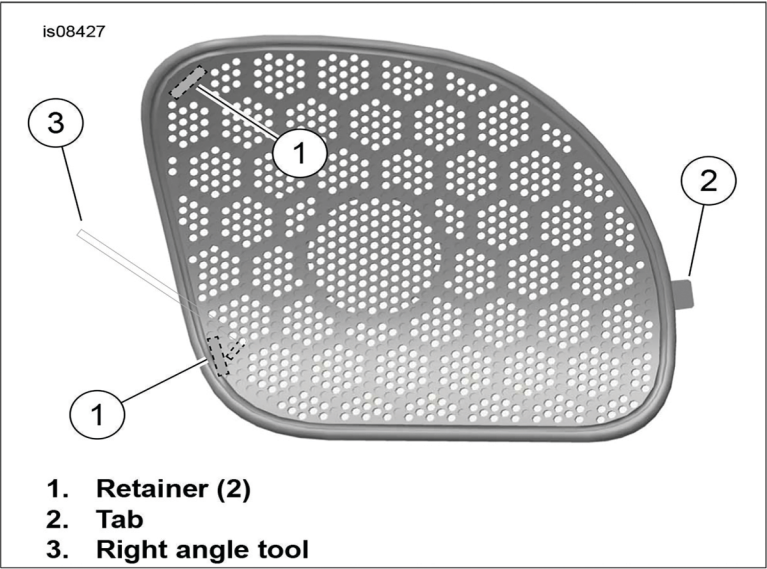

Figure 1. Remove Speaker Grille
- a. See Figure 1. Carefully insert a right angle tool (3) through a hole in the left grille next to one retainer (1).
- j. Engage tab (2) into grille opening.
- k. Engage retainers (1) in slots.